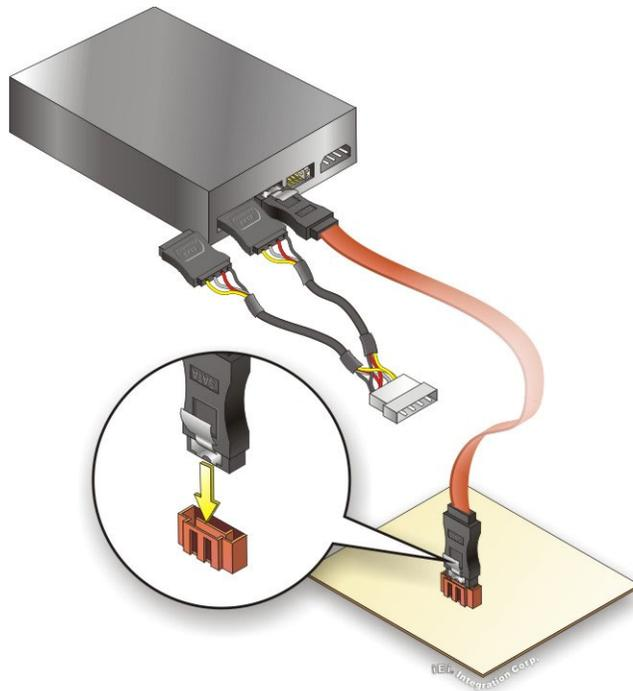

Figure 4-18: SATA Power Drive Connection
Step 3: **Connect the cable to the SATA disk.** Connect the connector on the other end of the cable to the connector at the back of the SATA drive. See **Figure 4-18**.
Step 4: **Connect the SATA power cable.** Connect the SATA power connector to the back of the SATA drive. See **Figure 4-18**.